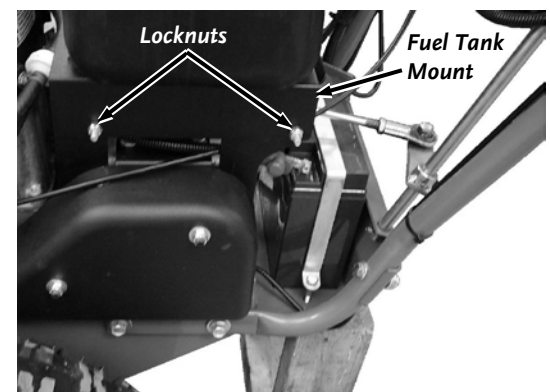

Figure 38
2. Remove the Locknuts on the left hand side of the Fuel Tank Mount with a 7/16" Wrench (**Figure 38**).
12. Move the Fuel Tank back into position and secure with the two Bolts (right hand side) and two Locknuts (left hand side) (**Figure 38** on previous page **and 39**).